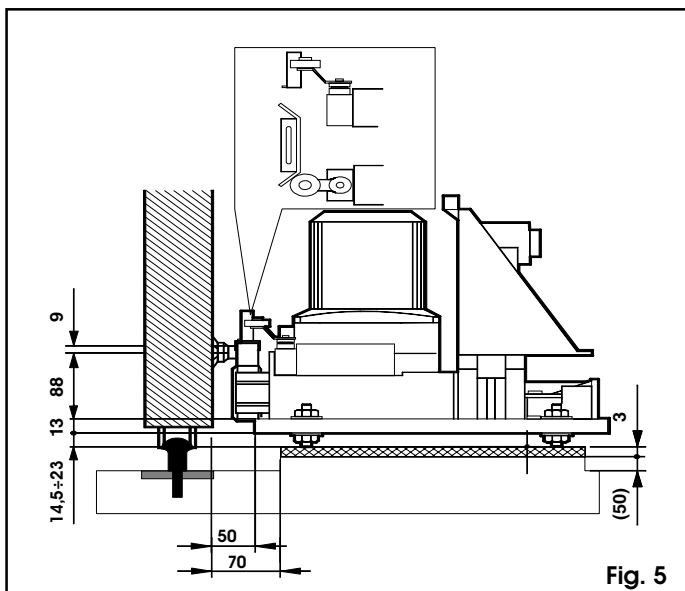

Fig. 5
*N.B.* it is advisable to place the base plate on a concrete foundation at about 50 mm from the ground (fig. 5).
The positioning of the operator is shown in fig. 5.